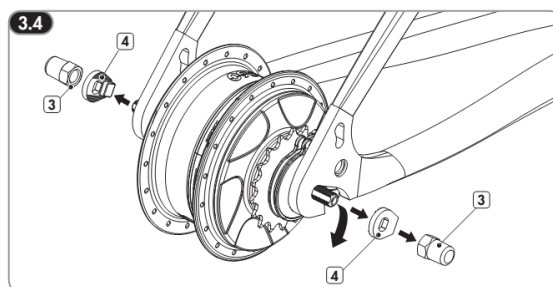

Figure 10 : Remove the anti-rotation washers and nuts
4 - Loosen and / or remove the wheel nuts (3) and the anti-rotation washers (4) according to Figure 10 - You can now remove the rear wheel.